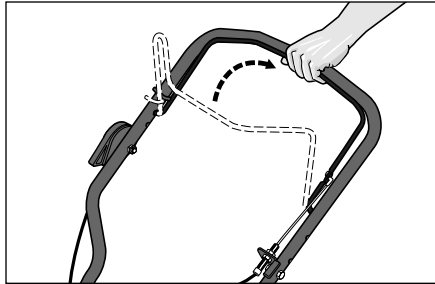

Figure 4-4: Control bail engaged.
2. When the engine is running, pull and hold the control bail up against the handlebar (Figure 4-4) to start rotation of the trimmer head.
2. Slowly pull the Trimmer Head Control Bail (Figure 4-4) against the handlebars to activate the trimmer head. Use the Engine Throttle Control Lever to adjust the turning speed of the trimmer head.